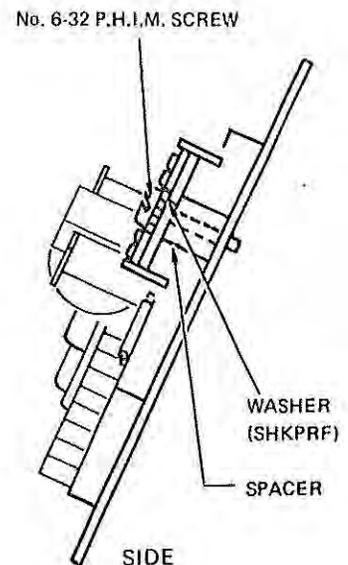

Figure 12. Polarity Guard Mounting
b. Mount the polarity guard to the right of the network assembly (fig. 12) on the network mounting bracket with the screw supplied with the polarity guard.